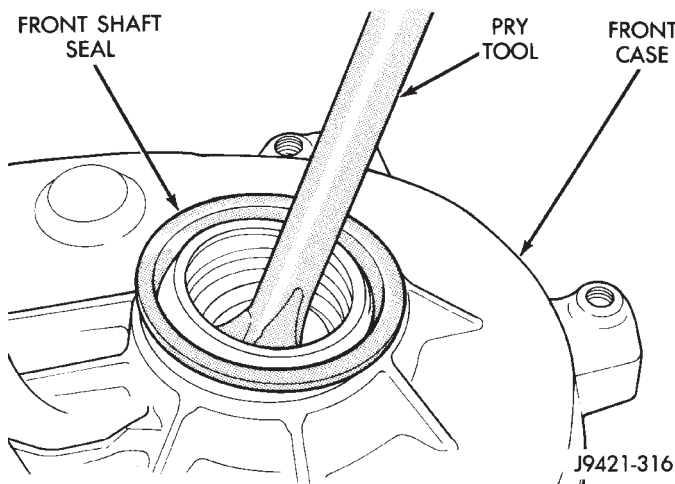

Fig. 29 Front Output Shaft Oil Seal Removal
(1) Lubricate components with automatic transmission fluid (or petroleum jelly where indicated) during assembly.
(2) Remove front output shaft seal from front case with crowfoot style pry tool (Fig. 29).